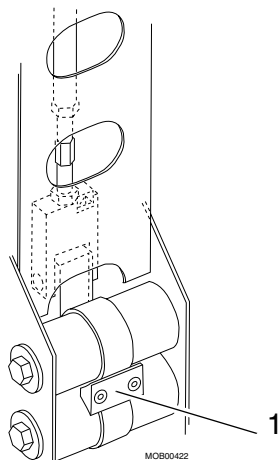

Fig. 14 Friction lining
19. Loosen the friction lining slightly by turning both screws 360 deg. (pos. 1 / Fig. 14).